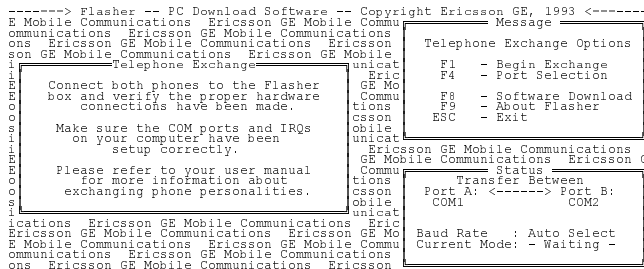

Figure 18 - Software Exchange Screen
4. Press <<enter>> when the COMM port information is set correct. The Software Exchange Screen shown in Figure 18 will appear.